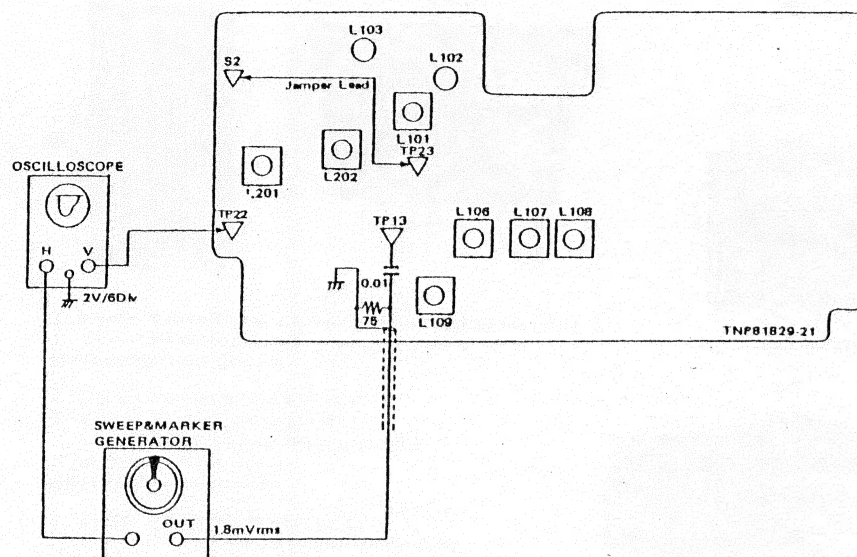

Fig.16
3. Sweep & Marker generator and oscilloscope---connect and set shown in Fig.16.
4. Connect the jumper lead between S2 and TP23 as shown in Fig.16.